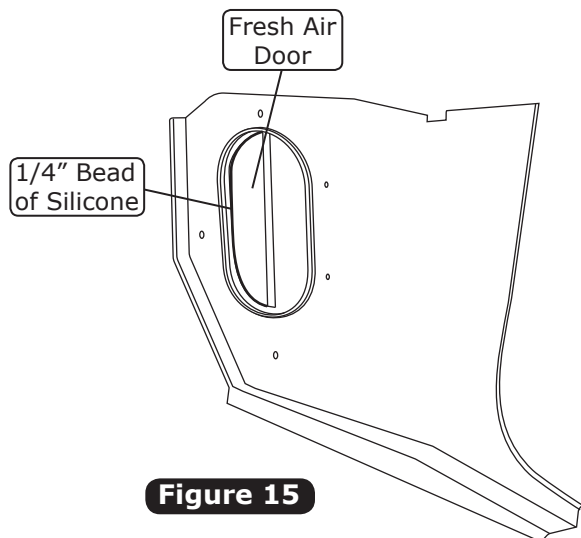

Figure 15
1. Remove the kick panel by removing the (5) #10 x 1" pan head screws.
2. Disconnect the fresh air door from the lever housing. Close the fresh air door assembly in the kick panel and seal the door with a 1/4" bead of silicone around the door as shown in Figure 15, below.